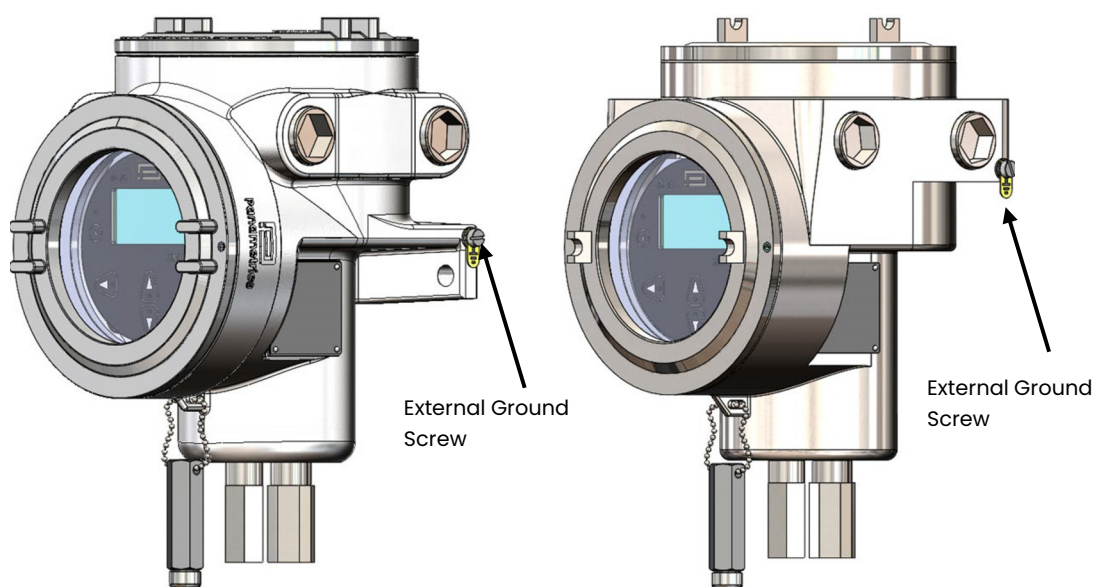
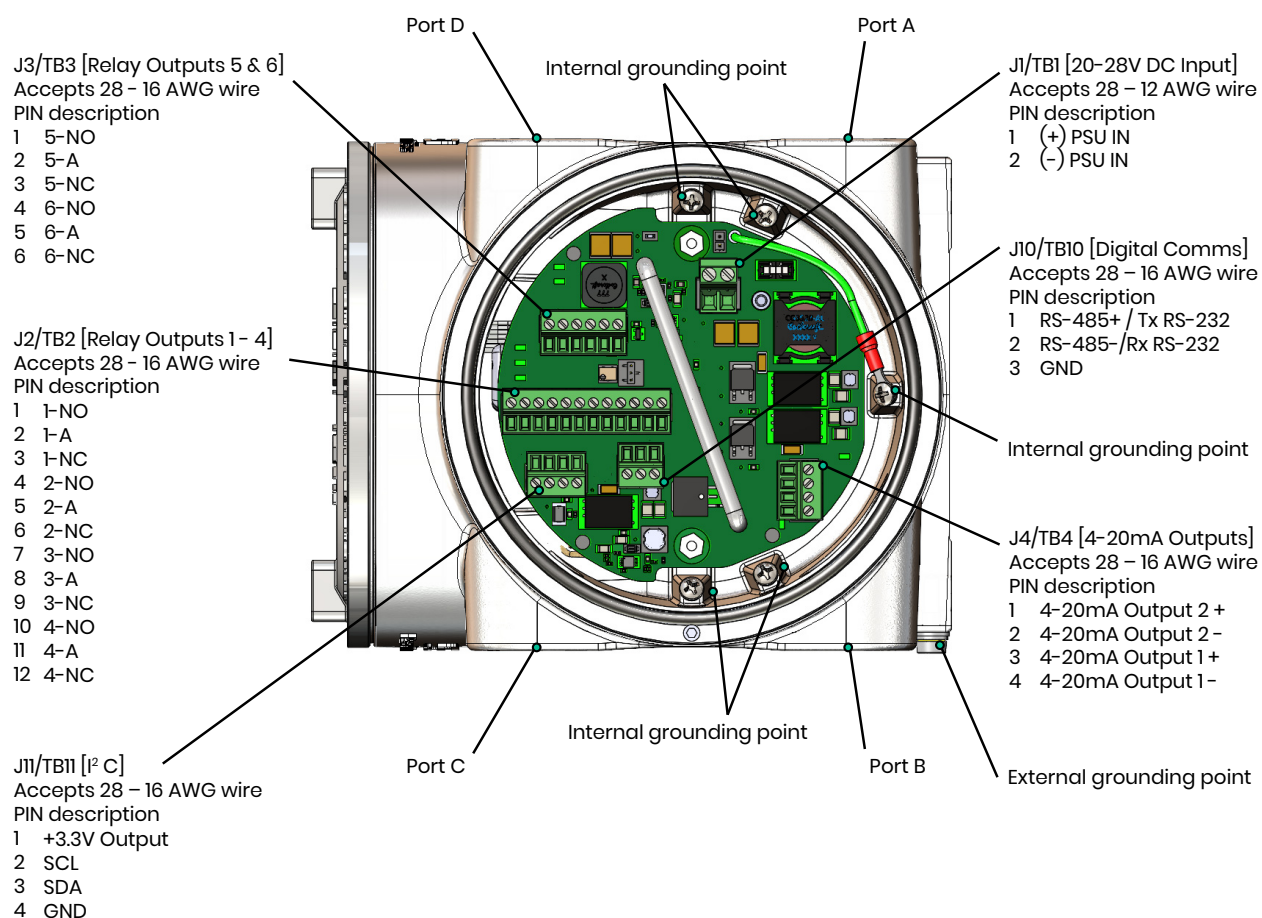

Figure 7: External Ground Screw Locations for Aluminum and Stainless Steel Versions of XMO2pro
Figure 8: Wiring Diagram
WARNING! The XMO2pro analyzer shall be properly grounded. Connect the external ground screw on the XMO2pro enclosure (see Figure 7 below) to a suitable earth grounding point.
Refer to *Figure 8* for port location and *Table 1* for PSU cable length requirements:
The 24 VDC power input, 4-20 mA analog outputs, relay outputs and digital comms outputs wiring connections are made to terminal blocks TB1, TB2, TB3, TB4, and TB10 inside the XMO2pro (see *Figure 7*). To access this terminal block, loosen the locking screw and remove the cover. Then, refer to *Figure 8* for the location and pin designations of terminal blocks TB1, TB2, TB3, TB4, and TB10.
4. Connect the appropriate leads per the wiring diagram in *Figure 8*.
IMPORTANT: The maximum cable length for an RS485 connection is 4000 ft (1200 m). To wire to the serial port, refer to Figure 8 and complete the following steps: